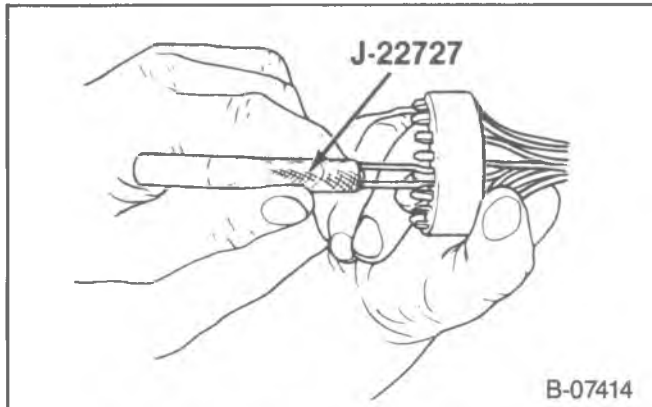

Figure 40—Connector Wire Removal
↔ Remove or Disconnect (Figure 40)
- Mark the location of each wire in the half-moon connector and then remove each individual wire from the connector. Use J-22727 (figure 40). Insert the tool into the lower end of the connector and push in until the tool bottoms on the connector. Remove the tool and then pull the wire from the connector.